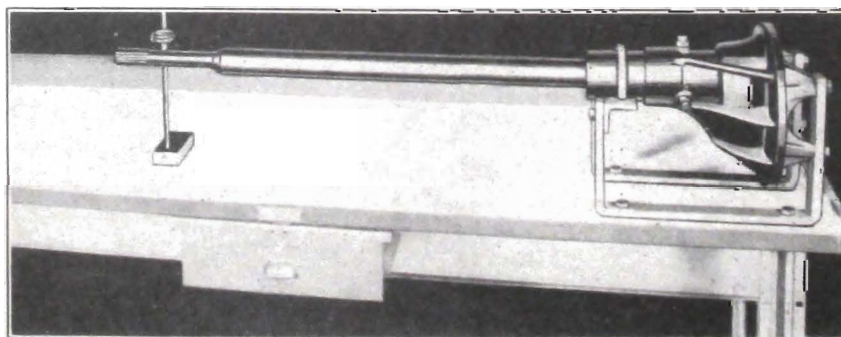

Fig. 4-19. Pinion and Propeller Shaft Straightening Fixture
6. Press bearing on pinion shaft, after other parts are installed on pinion. See Fig. 4-19. Use a piece of tubing which is the proper size to bear directly on the inner race.
Fig. 4-19 shows a sample fixture. It is recommended that such a fixture be made and used.